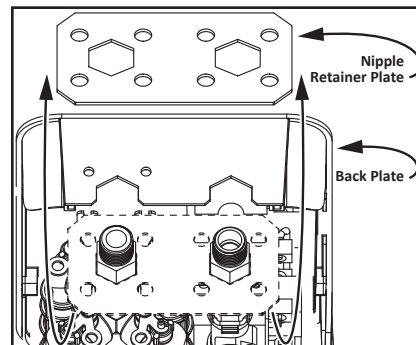

Figure 44 - Nipple retainer plate removal.
Remove the nipple retaining plate by gently pulling the top of the assembly until the nipple retaining plate has cleared the back plate. Remove the nipple retainer plate and place it out of the way. See Figure 44.
**4** Reinstall the nipple inlet plate and position/seat the assembly into place. See Figure 44, page 25.